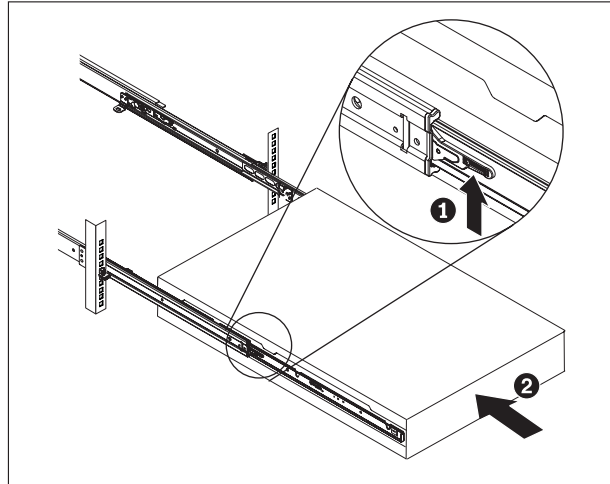

Figure 14. Slide the appliance into the rack
6. Slide the appliance into the rack, as shown in Figure 14 on page 23.